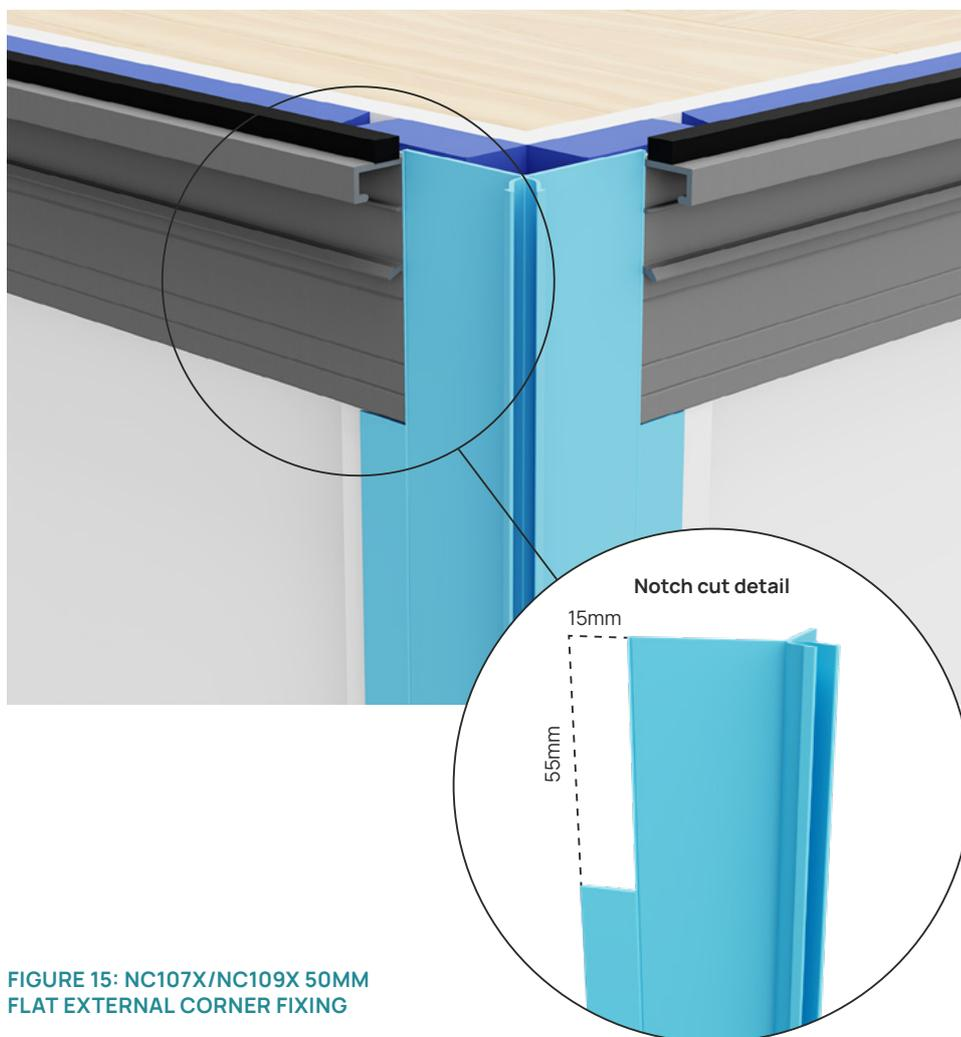

FIGURE 15: NC107X/NC109X 50MM FLAT EXTERNAL CORNER FIXING
2. Cut a 15mm deep x 55mm long notch in the top of the external corner base flashing, to accommodate the top of wall base flashing. (Internal corner base flashings do not require a notch). - See figure 15.
The Base Flashing (NC247T) must be trimmed to length so that it square butts against the corner cap flashing. This means a 15mm deep notch must be cut into the External Corner Base Flashing (NC109X). This notch is not required for internal corners. See section 4.2 and figure 15.
2. Trim the Termination Base Flashing (NC247T) to length and cut the notch in the external corner Base Flashing (NC109X) – See section 4.2 and figure 15.